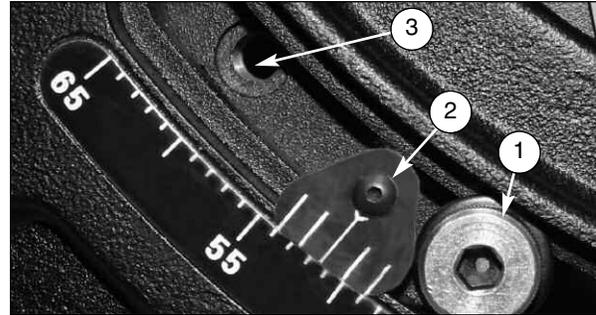

Fig. 3: Latitude Range Holes. (1) Tilt Angle Adjustment Screw; (2) Vernier Pointer; (3) Optional Mounting Hole.
- The tilt angle adjusting screw (1, Fig. 3) is installed in the factory to allow the tilt plate to be adjusted for any latitude greater than 25° and less than 55°. If viewing in a region with a latitude greater than 55°, unthread the adjusting screw with the supplied hex key wrench and move the screw to the optional mounting hole (3, Fig. 3).